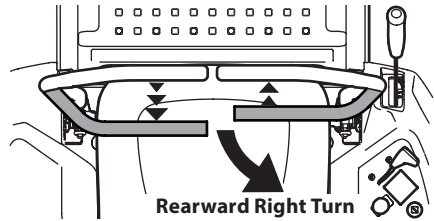

Figure 28
2. To turn to the right while traveling in reverse, move the right drive control lever forward of the left drive control lever. See Figure 28.